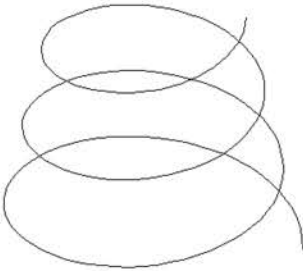

Fig. 11.30 The completed helix
2. Place in the **SW Isometric** view. The result is shown in Fig. 11.30.